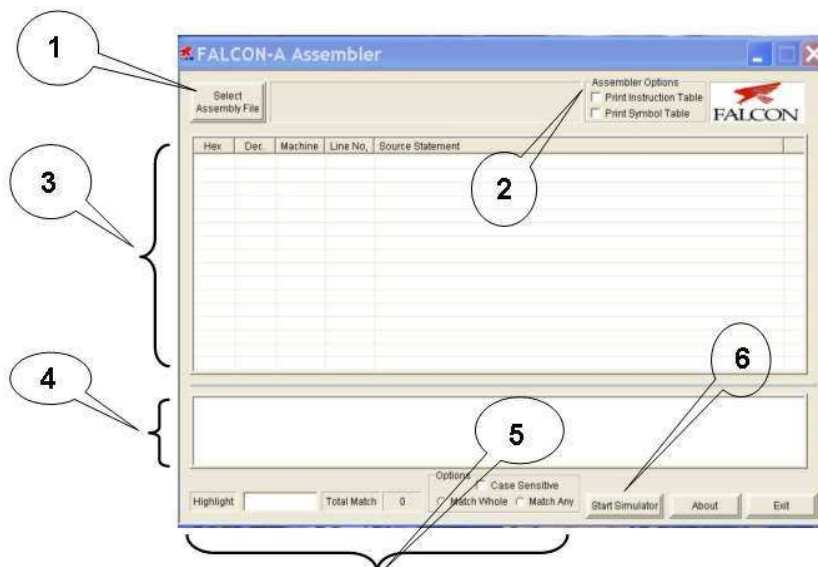

Figure 1
Figure 1 shows a snapshot of the graphical user interface (GUI) for the FALCON-A Assembler. This tool loads a FALCON-A assembly file with a (.asmfa) extension and parses it. It shows the parsed results in an error log, lets the user view the assembled file's contents in the file listing and also provides the features of printing the machine code, an Instruction Table and a Symbol Table to a FALCON-A listing file. It also allows the user to run the FALCON-A Simulator.
*Select Assembly File:* Labeled as “1” in Figure 1, this feature enables the user to choose a FALCON-A assembly file and open it for processing by the assembler. *Assembler Options:* Labeled as “2” in Figure 1.
*List File:* Labeled as “3”, in Figure 1, the List File feature gives a detailed insight of the FALCON-A listing file, which is produced as a result of the execution of the 1st and 2nd-pass. It shows the Program Counter value in hexadecimal and decimal formats along with the machine code generated for every line of assembly code. These values are printed when the 2nd-pass is completed.
*Error Log:* The Error Log is labeled as “4” in Figure 1. It informs the user about the errors and their respective details, which occurs in any of the two passes of the assembler. The size of this window can be changed by dragging the boundary line up or down.
*Highlight:* This feature is labeled as “5” in Figure 1 and helps the user to search for a certain input with the options of searching with “**match whole**” and “**match any**” parts of the string. The search also has the option of checking with/without considering “**case-sensitivity**”. It searches the List File area and highlights the search results using the yellow color. It also indicates the total number of matches found.
*Start Simulator:* This feature is labeled as “6” in Figure 1. The FALCON-A Simulator is run using the FALCON-A Assembler’s “Start Simulator” option. Its features are detailed as follows:
- To start FALSIM (the FALCON-A assembler and simulator), double click on the FALSIM icon. This will display the assembler window, as shown in the Figure 1.